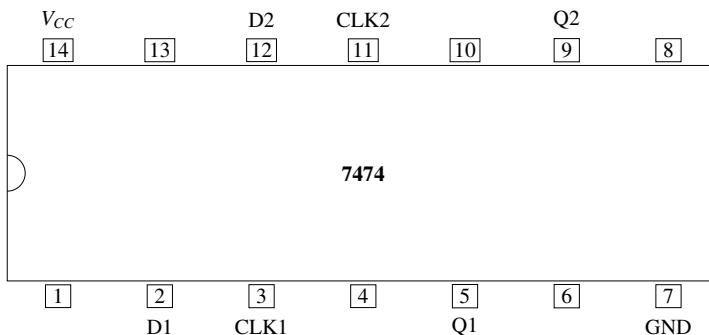
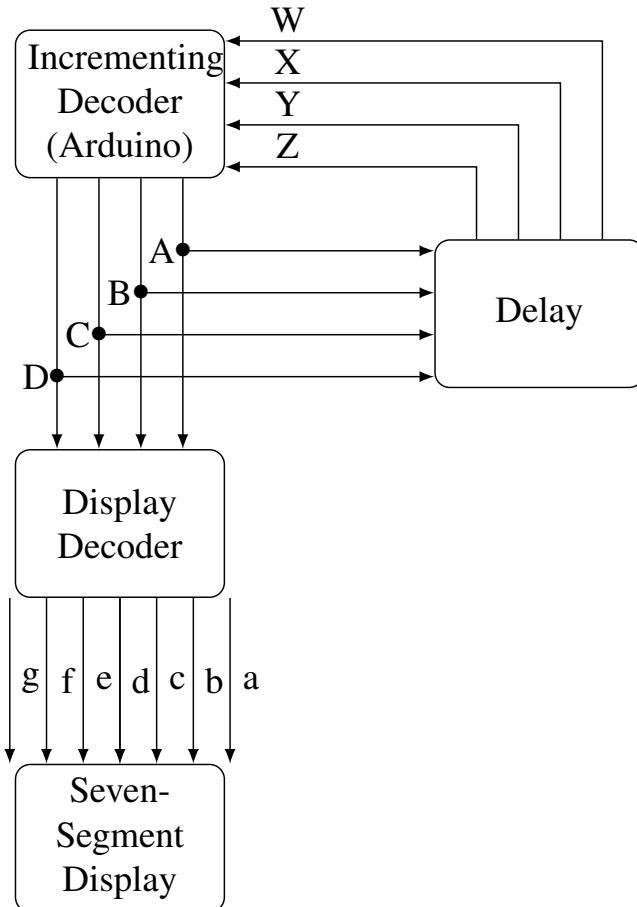

Fig. 5.1
Fig. 5.2
2. Connect the Arduino, 7447 and the two 7474 ICs according to Table 9.4 and Fig. 5.2. The pin diagram for 7474 is available in Fig. 5.1
to realize the decade counter in Fig. 5.2.